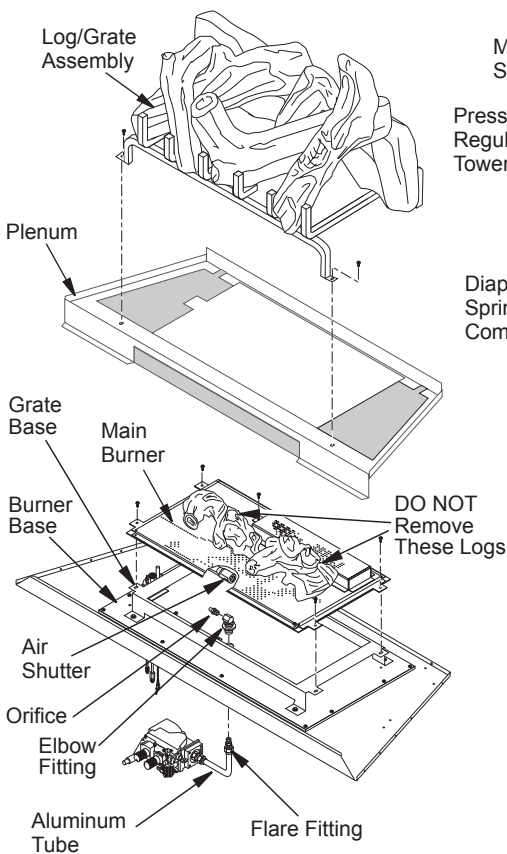

Figure 3 - Removing Orifice for Conversion (Valve Shown Removed from Base for Clarity)
1. Carefully remove logs/grate assembly by unscrewing grate from plenum (see Figure 3). The two logs under the grate are attached to the burner. **DO NOT** remove these logs.
3. Remove main burner from grate base by removing four screws (see Figure 3).